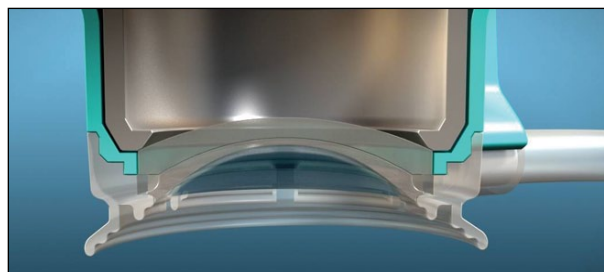

Figure 6. The SoftFit Patient Interface conforms to the natural curvature of the cornea for comfort and safety.
The addition of the SoftFit Patient Interface (PI) to the LenSx Laser (Figure 6) has changed how I perform surgery. The SoftFit PI has made the centering and docking of the eye much simpler, and all of the capsulotomies are free-floating and now much more efficient to perform. This proprietary soft contact lens insert preserves the natural curvature of the cornea during the treatment. I also like how the SoftFit PI fixates the eye, not the head, for greater patient comfort.